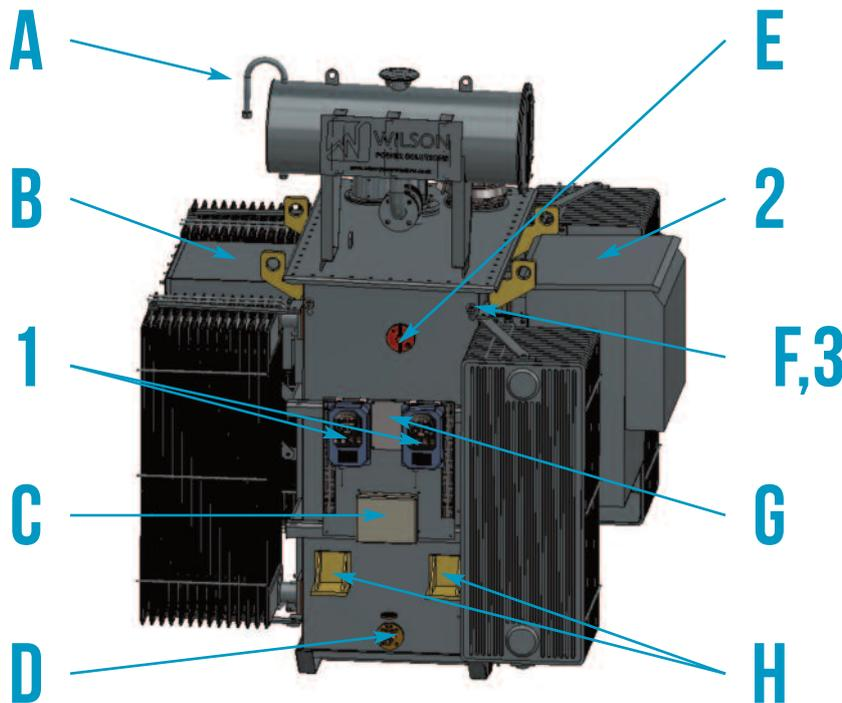
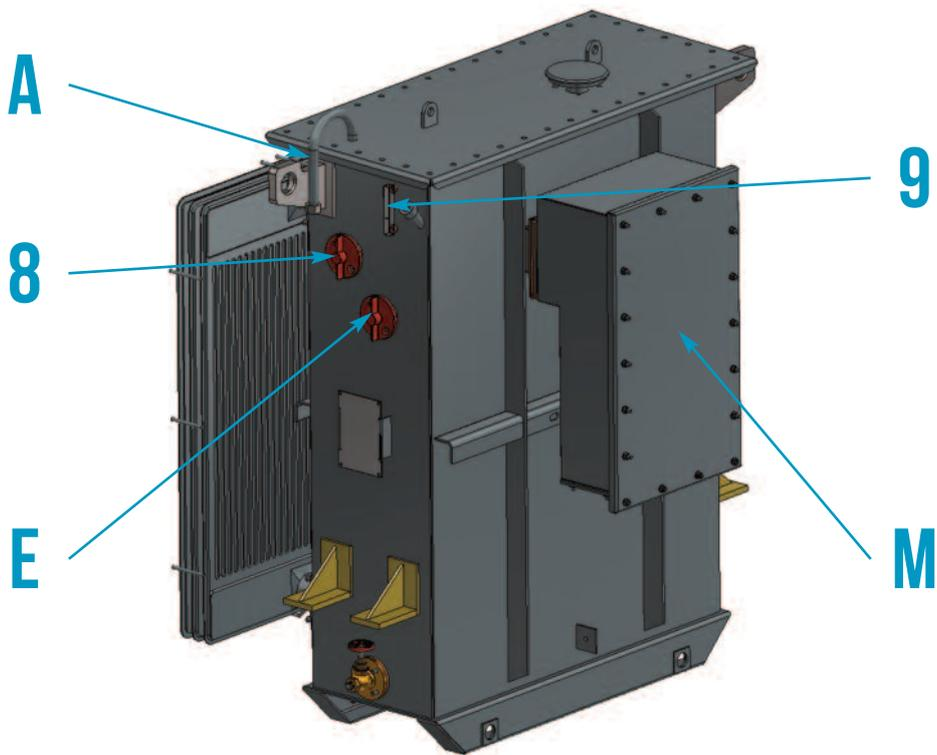

Figure 1a - Transformer View from Tap Switch End
Figure 2 - Dua Ratio Transformer
- A. Connection point for air dehydrating breathers (Figure 1a)
- B. LV connection (standard cable connection) (Figure 1a)
- C. Marshalling Box (Figure 1a)
- D. Drain valve (Figure 1a)
- E. De-energised tap-changer (Figure 1a & Figure 2)
- F. Thermometer pocket (Figure 1a)
- G. Rating plate (Figure 1a)
- H. Jacking points (Figure 1a)
- M. HV connection (standard cable connection) (Figure 2)
1. Oil temperature indicator (OTI)/ Winding temperature indicator (WTI) (Figure 1a)
2. Ring main units/ACB/ other connections (Figure 1a)
3. Thermometer, to install on the thermometer pocket (Figure 1a)
8. Off circuit dual ratio changer (Figure 2)
9. Oil level indicator (Figure 2)